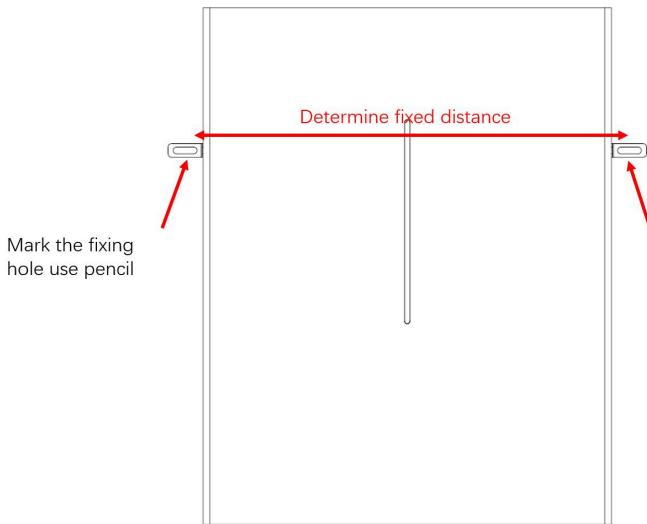

Figure 5-5
- Stand the battery on the side of the wall, mark the location of the fixing hole, Choose the recommend drill head (as shown in below picture) to drill 2 holes on the wall,100-110mm deep, as shown in Figure 5-2 and Figure 5-5.